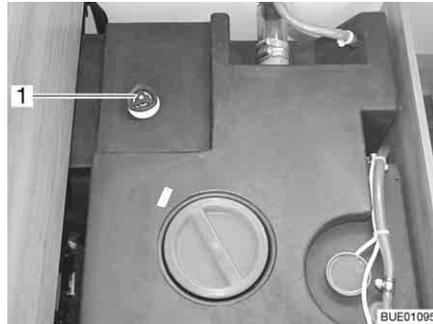

Fig. 170 Water tank with handle
- Turn the handle (Fig. 170,1) on the water tank in a clockwise direction as far as it will go.
- Turn the handle (Fig. 170,1) on the water tank in an anticlockwise direction as far as it will go. Excess water will drain away leaving 60 litres in the tank.